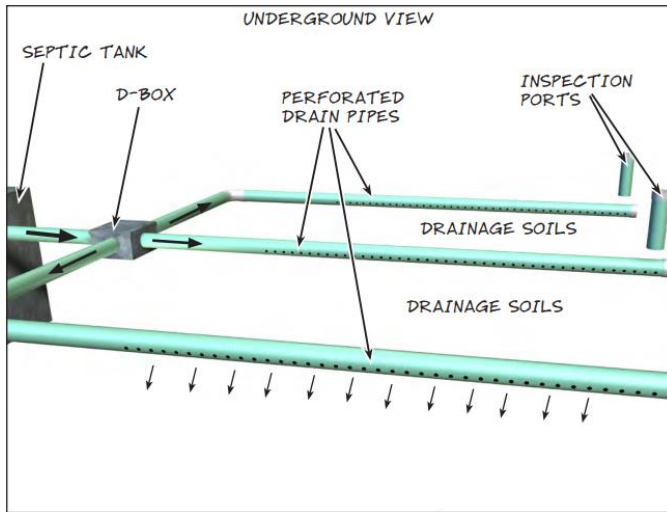
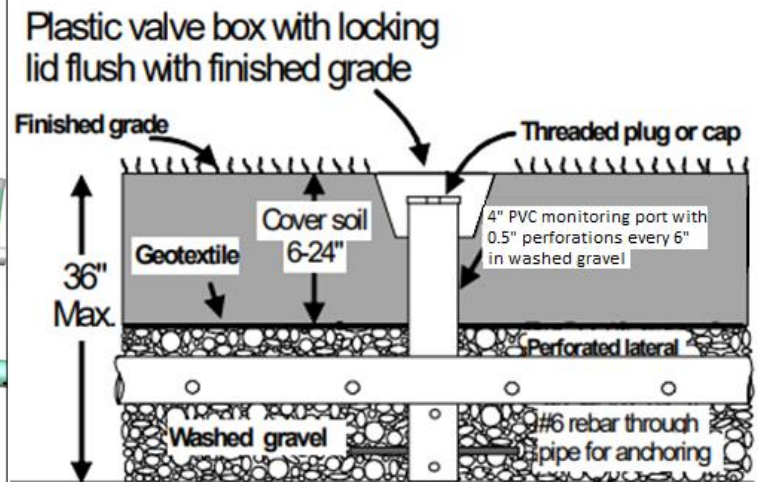

Figure 3: Drainfield Details (source: WADOH)
Figure 4: Monitoring Port Example (source: WADOH)
- The perforated holes in the drain lines must be placed with holes in the 4 and 8 o'clock position (Figure 3).
- Monitoring ports should be included on every drainline within 10' from the end and should be accessible at grade (Figure 3 & Figure 4).